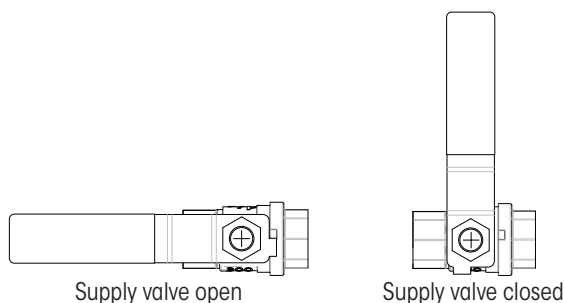

Figure 48: Supply Valve Operation
3. **Ensure** TIREMAAX supply valve is in open position (Figure 48).